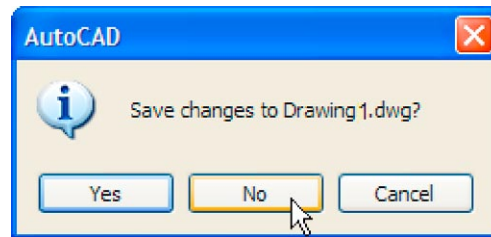

Fig. 2.5 The **AutoCAD** warning window
2. The warning window Fig. 2.5 appears in the centre of the screen. *Click* its **No** button.